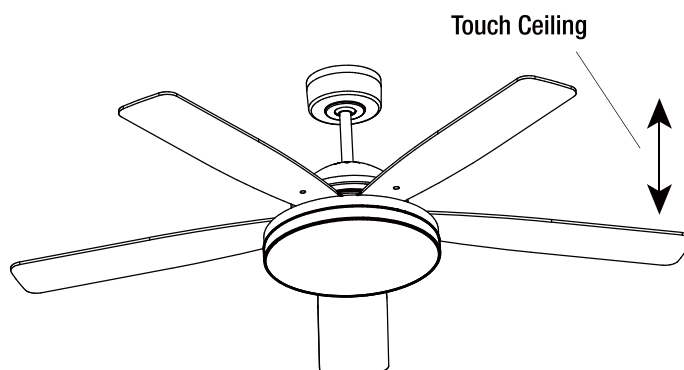

Figure 16
- Most fan wobble problems are caused when blade levels are unequal. Check this level by measuring the distance from the tip of one blade to the ceiling as shown in Figure 16. Rotate the fan until the next blade is positioned in the same place as the previous blade and measure again. Repeat for each blade. Measurements should be within 1/8 in.
Excessive Wobbling.	□ Make sure that screws which attach fan blade holders to motor are fastened and tightened. □ Tighten screws of fan blade to blade holder securely. □ Ensure that canopy and mounting bracket are tightened securely to ceiling joist. □ Check by selecting a point on the ceiling above the tip of one of the blades. Measure this distance and ensure all blades are even (see Fig. 16).